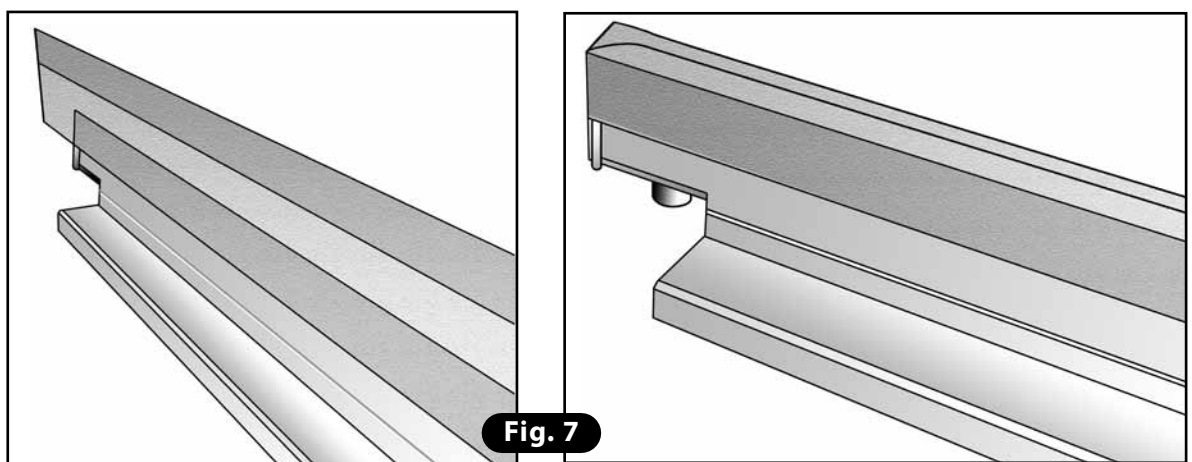

Fig. 7
- 4) Put on the new covering, cutting off any excess at the ends (**Fig. 7**).